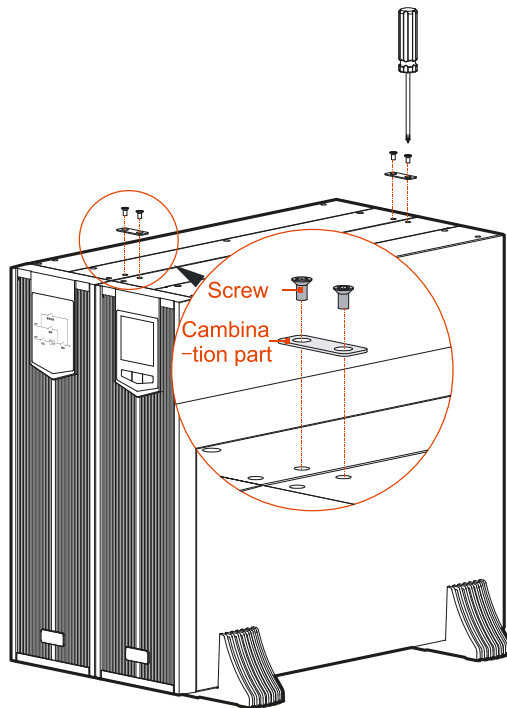

Figure3-8 Install combination units
Step 3 Take out the combination parts and screws, and fasten them onto the top of the UPS and distribution module, as shown in Figure3-8.